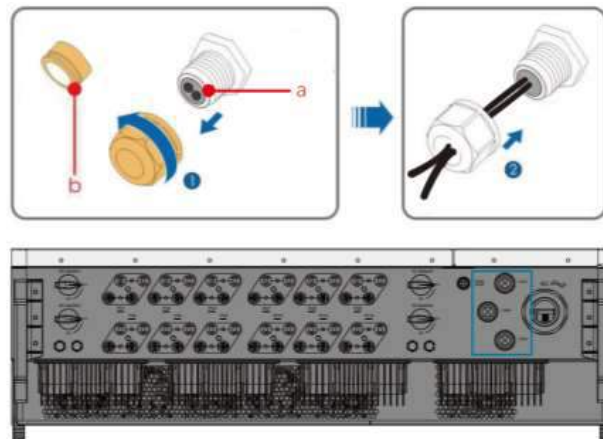

Fig. 4-49 Thread the cable into the lock nut
- 3) Thread the cable into the lock nut and sealing ring in turn (Fig. 4-49 and Table 4-12).